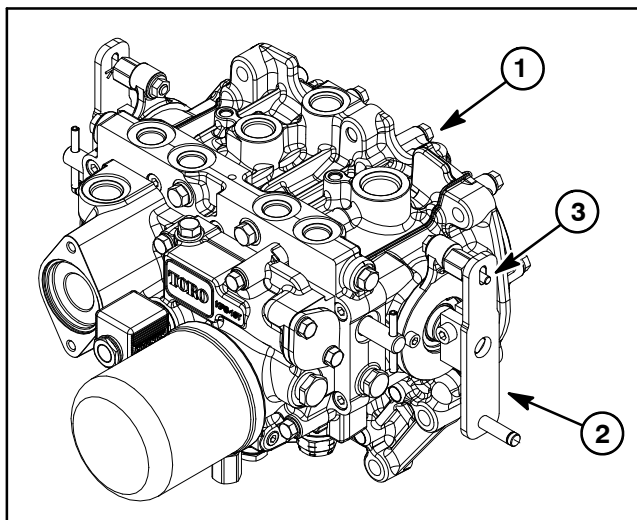

Figure 56
A. Align transmission control arm with transmission side cover with a 3/8" alignment pin (Fig. 56). This ensures that transmission is in the neutral position.